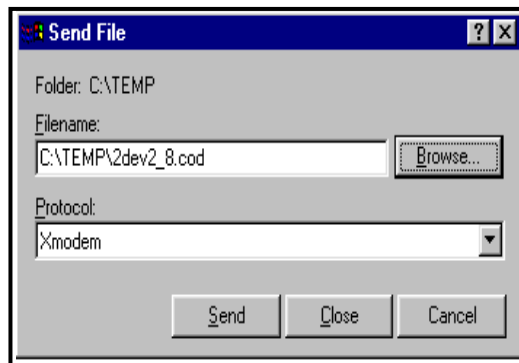

Figure 71: Transfer Menu Send File Window
2. Return to the PC Hyperterminal program. In the Hyperterminal window, pull down the *Transfer* menu and click *Send File*. A window opens similar to *Figure 71*.